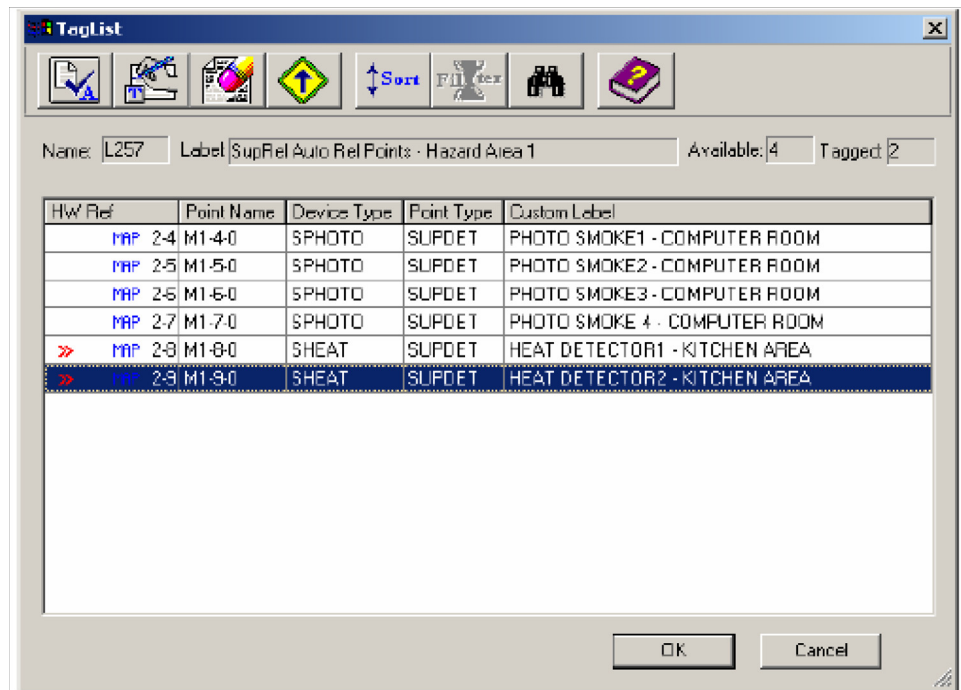

Figure 9-35. Tagging Points
1. Click on the button corresponding to the type of suppression points you want to select. The **TagList** screen shown in Figure 9-35 appears.